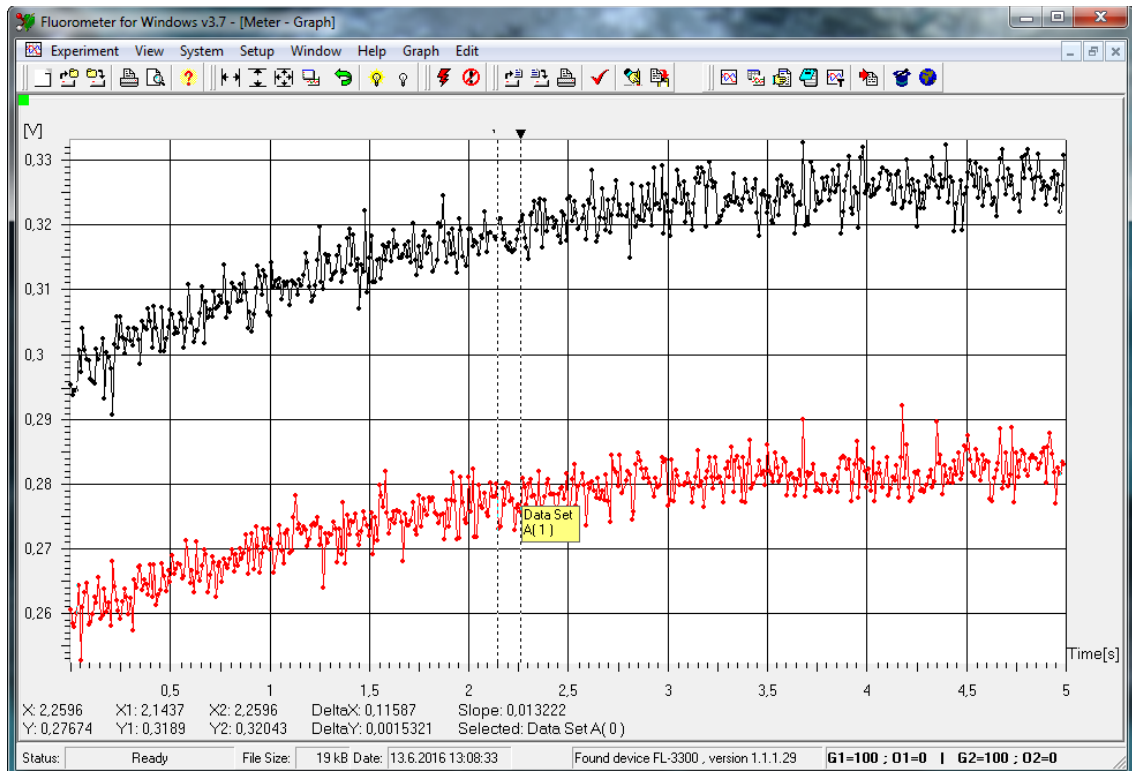

Fig. 24 Graph cursors.
- There are two **cursors in the graph**. Their position X difference, Y difference and Slope are displayed below the graph. Required DataSet curve for cursor positions can be selected by icon Select Signal (Fig. 24) or left mouse button/ single click on the yellow rectangle with the name of the data set.